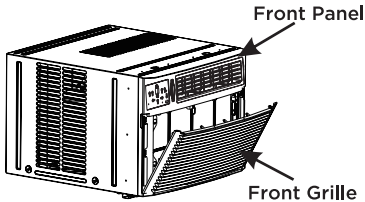

Fig.1
1. Pull down front grille and remove filter (See Fig.1).